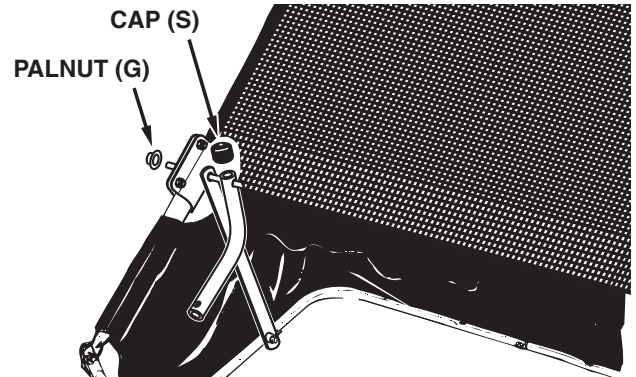

FIGURE 17
- Assemble a vinyl cap (S) onto each bag arm tube as shown in figure 17.
- Assemble two palnuts (G) onto the ends of the pivot rod using a hammer. See figure 17.